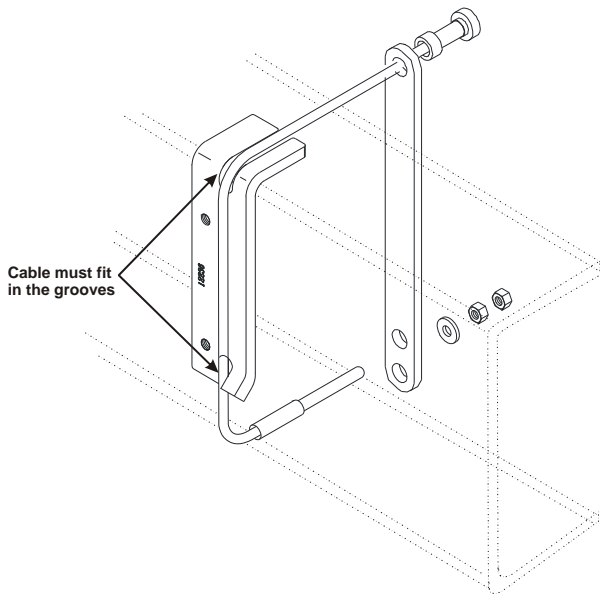

Figure 4.4
- Place the bar straps in position on the inside of the frame, one in front of the transmission cross-member and one behind, with the cable straps over the top of the frame (Figure 4.4).
- Wrap the two tank cable straps around the tank strap mounts. Make sure that they fit in the upper and lower cut-outs of the tank strap mounts (Figure 4.4).